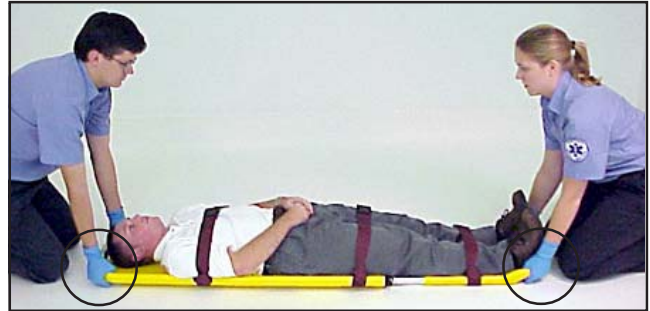

Figure 9 - Preparing to Lift the Stretcher
2. Grasp the handholds with an underhand grip (palms up), Figure 9.